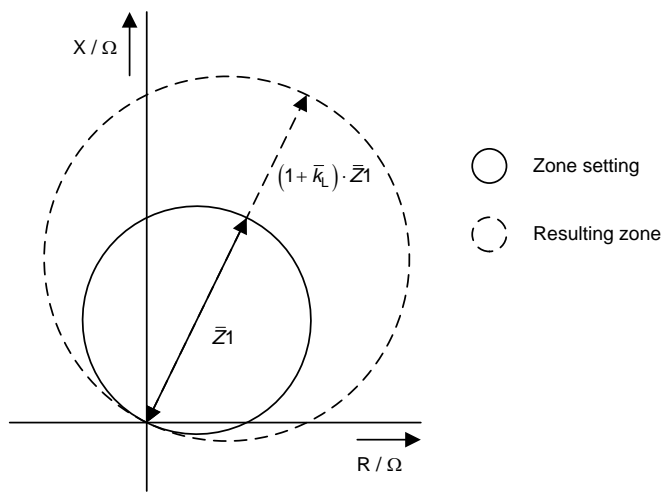
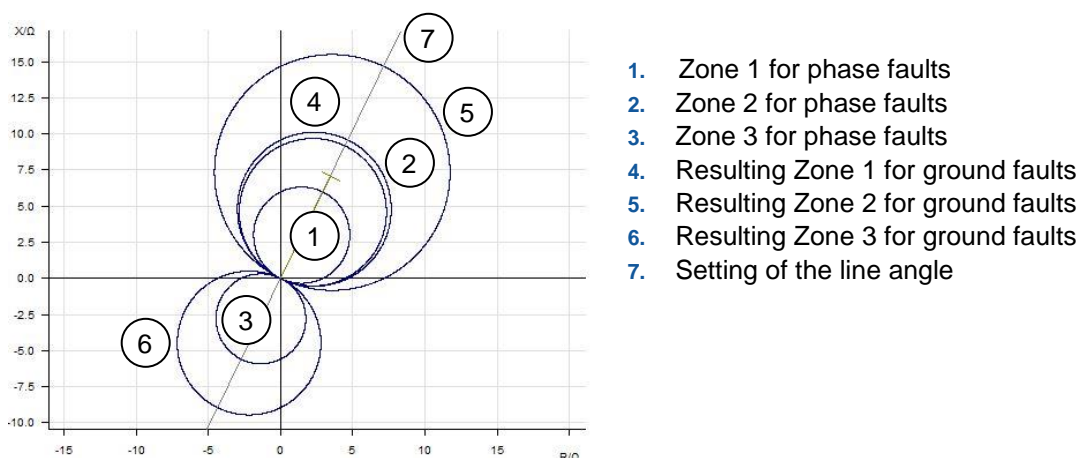

Figure 6: Influence of the zero-sequence compensation factor on the zone
Figure 7: Setting of ground zones as fault loop impedance
- Configure zone as resulting zone (see Figure 6 and Figure 7) and set zero-sequence compensation factor in the software to zero. Note that magnitude and angle of ground zones will differ from settings.